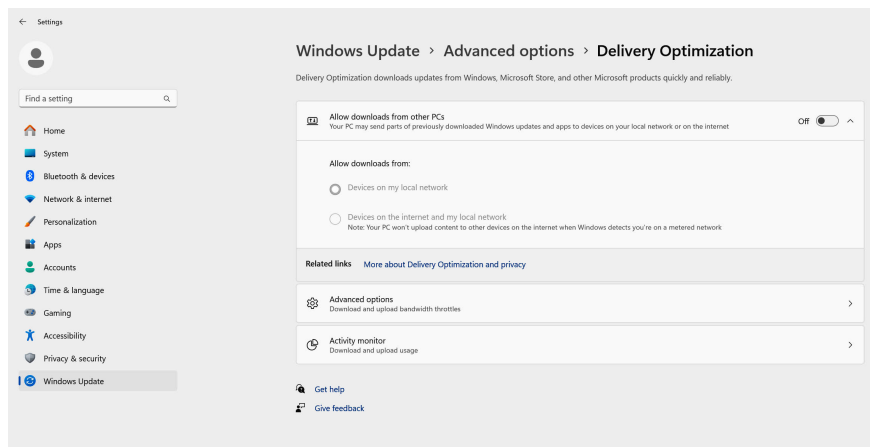

Figure 45: Win 11 Delivery Optimization
3. Next, Click on Delivery Optimization and choose “Allow Downloads from other PCs” - **OFF**. (Fig 45)